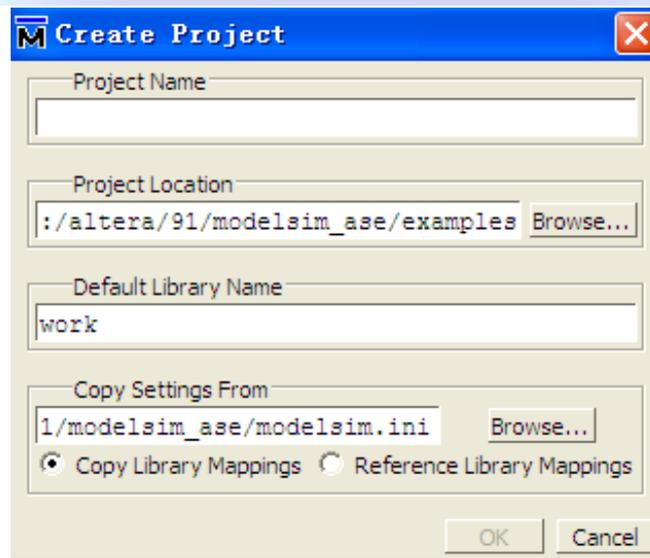

Figure 2.2 Create Project Dialog
1. Select **File > New > Project** to create a new project. This opens the **Create Project** dialog window where you can specify name, location, and default library name of a project. You can generally leave the **Default Library Name** set to "work." The name you specify will be used to create a working library subdirectory within the Project Location. This dialog window, shown in Figure 2.2, also allows you to refer library settings from a selected **.ini** file or copy them directly into the project.